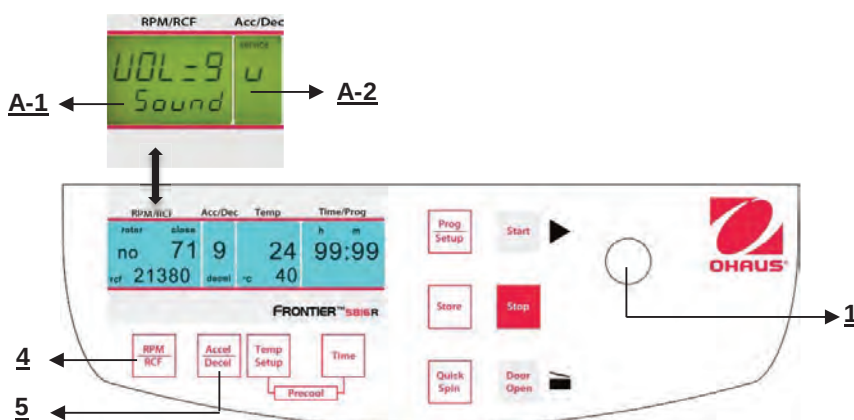

Figure 33
Proceed as described under point 4.1.1 to enter this program mode and then press the key **"Accel/Decel"** (5). In the display **"Acc/Dec"** (A-2) the word **"Service"** flashes. Now select the letter **"U"** with the adjusting knob (1). As a result, in the display **"RPM | RCF"** (A-1) the words **"Vol=0- 9/Sound"** appear. After pressing the key **"RPM | RCF"** (4), you can adjust the desired volume between 0 (low) and 9 (loud) with the adjusting knob (1) (See figure 33). After you have stored the settings (see 4.1.1) you can change back to the normal program mode again by switching off the centrifuge for a short period.